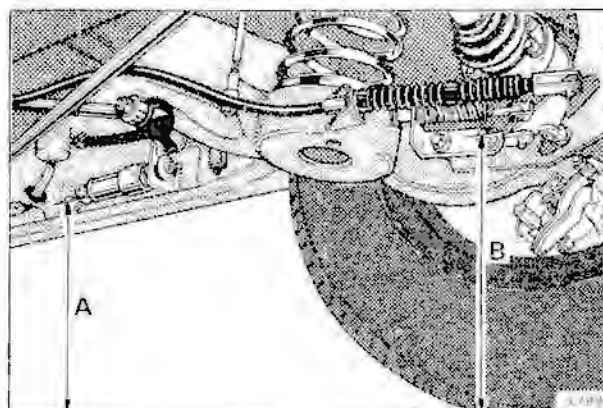

Fig. 5 Rear height checking points
- 13 Measure the height at A and B (see fig. 5). Subtract measurement B from measurement A. If the difference between A and B is within the range -5,5 mm to +2,5 mm (-0.225 into +0.10 in) then the rear height of the car is correctly set.